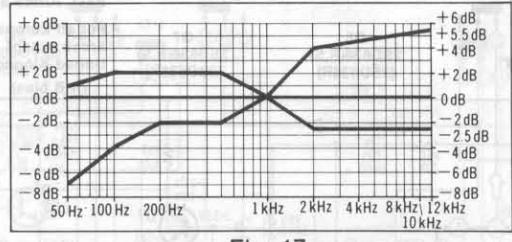

Fig. 17
- Switch the tape selector to CrO₂, change test tape to QZZCRX, and record 50Hz, 100Hz, 200Hz, 500Hz, 1kHz, 4kHz, 8kHz, 10kHz and 12.5kHz signals. Then, playback the signals and check if the curve is within the limits shown in the overall frequency response chart for CrO₂ tapes (fig. 17).
- Switch the tape selector to Metal, change test tape to QZZCRZ, and record 50Hz, 100Hz, 200Hz, 500Hz, 1kHz, 4kHz, 8kHz, 10kHz and 12.5kHz signals. Then, playback the signals and check if the curve is within the limits shown in the overall frequency response chart for metal tapes (fig. 17).